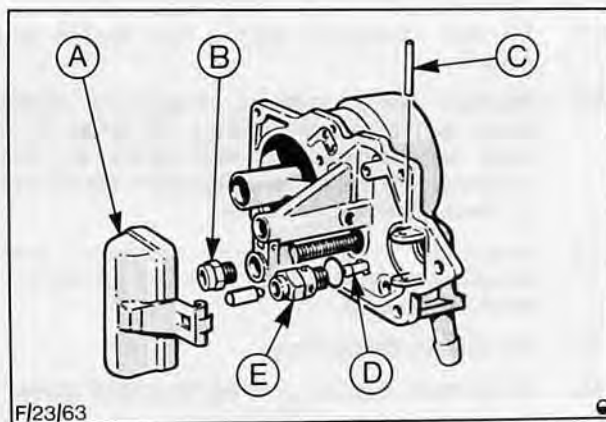

Fig. 40. Carburettor upper body dismantled
4. Tap out float retaining pin and lift out float and needle valve, remove upper gasket. Unscrew valve housing and detach filter from housing, Fig. 40.
assembly is fitted to carburettor, Fig. 40.